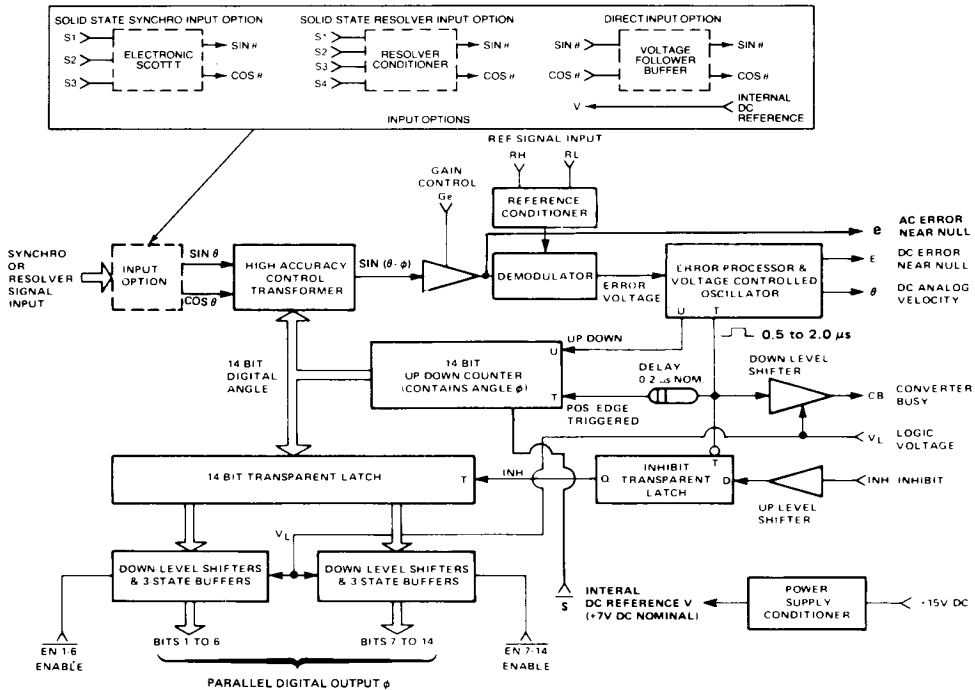

FIGURE 1. HSDC-8915 SERIES BLOCK DIAGRAM
The circuit shown in the HSDC-8915 block diagram, Figure 1, consists of three main parts: the signal input option; a feedback loop whose elements are the control transformer, demodulator, error processor, and up-down counter; and digital interface circuitry including various latches and buffers.
Logic outputs consist of 14 parallel data bits and a Converter Busy (CB). All logic outputs are short-circuit proof to ground and to positive voltages as high as  $V_L$ . The CB output is a positive 0.5-2.0  $\mu$ s pulse, and data changes about 0.2 $\mu$ s after the leading edge of the pulse because of an internal delay (see Figure 1). Data is valid 0.5 $\mu$ s after the leading edge of a CB. If the converter is operated with fewer than 14 bits, the unused LSB bits should be left unconnected.
The Inhibit (INH) logic input locks the 14 bit transparent latch so that the bits will remain stable while data is being transferred (see Figure 1). The output is stable 0.5 $\mu$ s after the Inhibit is driven to logic 0. A logic 0 at the T input locks the 14 bit latch, and a logic 1 allows the bits to change. The purpose of the INH transparent latch is to prevent the transmission of invalid data when there is an overlap between the CB and INH. While the counter is not being updated the CB is at logic 0 and the INH latch is transparent. When the CB goes to logic 1 the INH latch is locked. If a CB occurs after an INH has been applied, the 14 bit latch will remain locked and its data cannot change until the CB returns to logic 0. If an INH is not applied during a CB pulse, the 14 bit latch will not lock until the CB pulse is over. The purpose of the 0.2 $\mu$ s delay is to prevent a race condition between the CB and the INH in which the up-down counter begins to change just as an INH is applied.